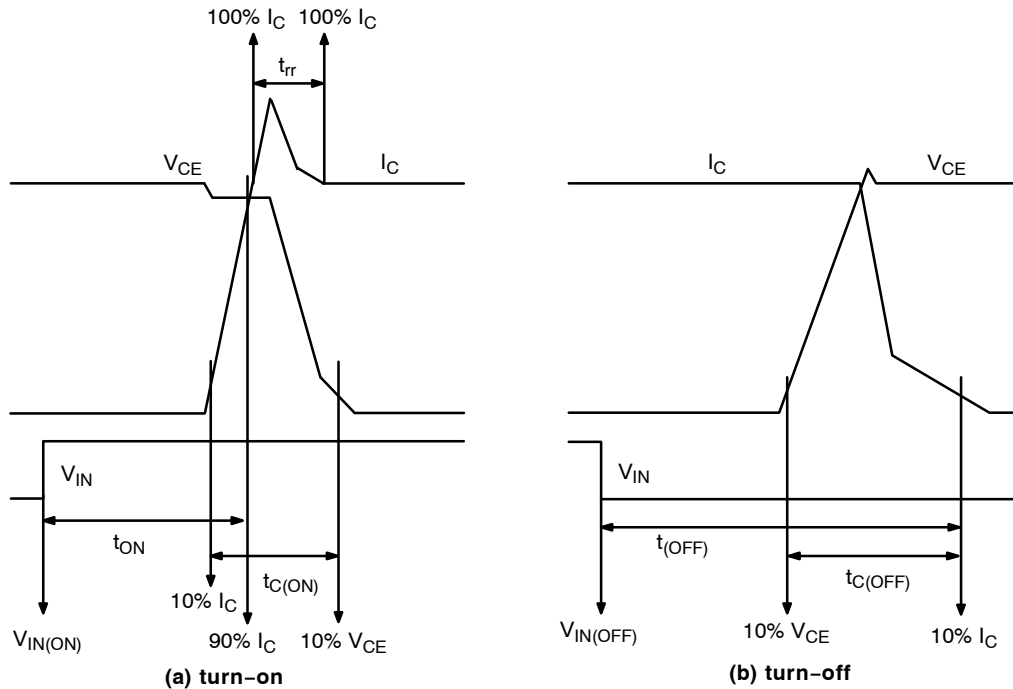

Figure 3. Switching Time Definition
6. t_{ON} and t_{OFF} include the propagation delay time of the internal drive IC. $t_{C(ON)}$ and $t_{C(OFF)}$ are the switching time of IGBT itself under the given gate driving condition internally. For the detailed information, please see Figure 3.